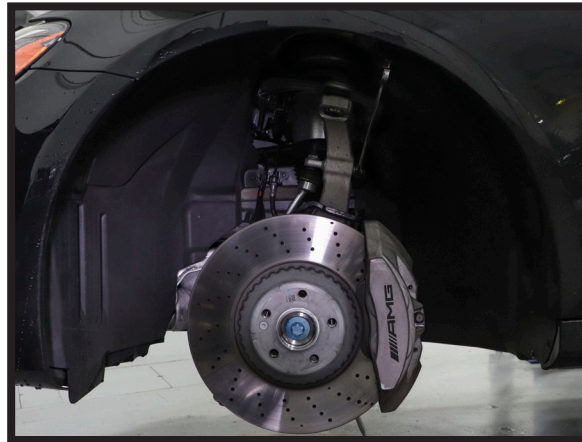

FIGURE 1
3. REMOVE THE APPLICABLE FRONT WHEEL. (FIGURE 1)